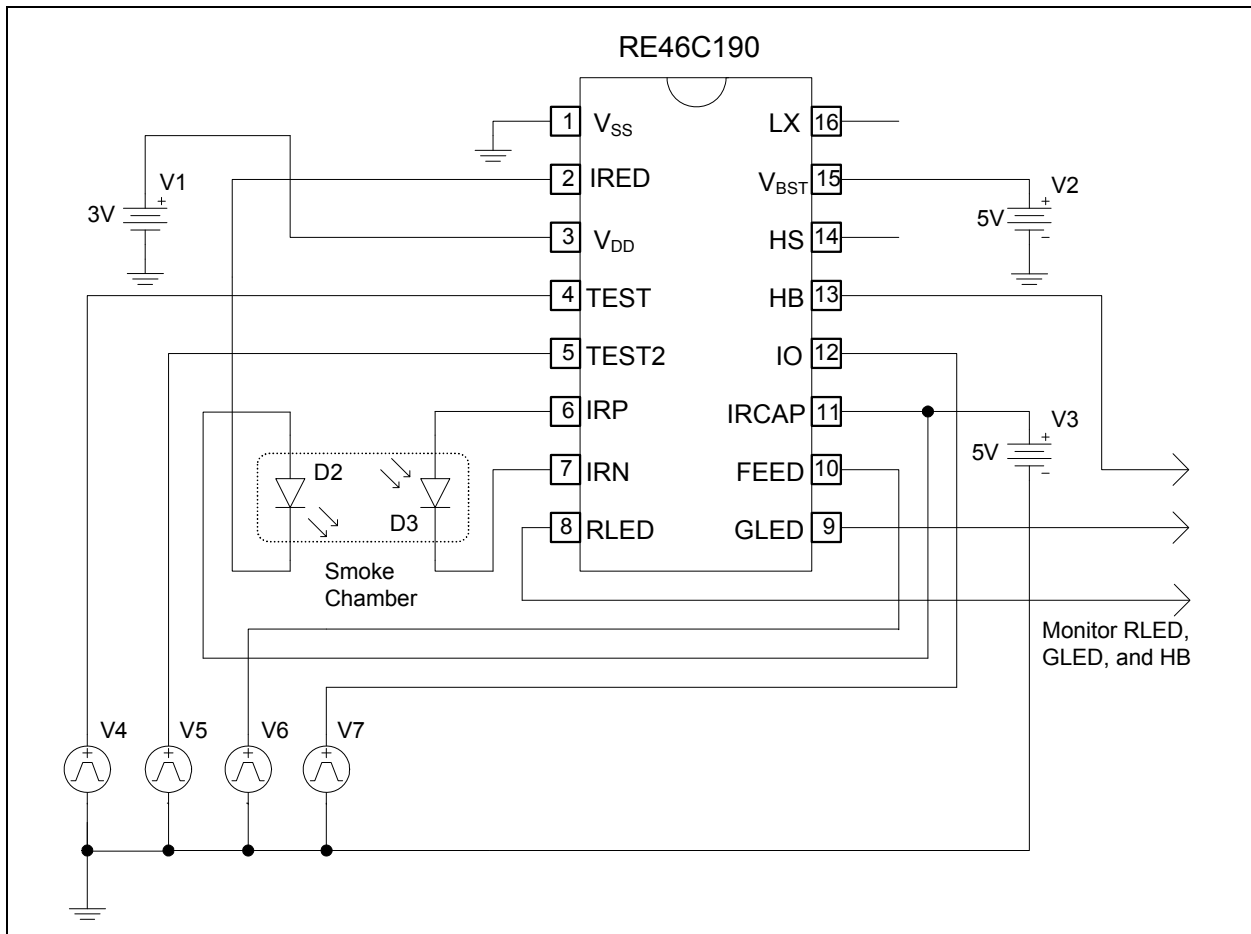
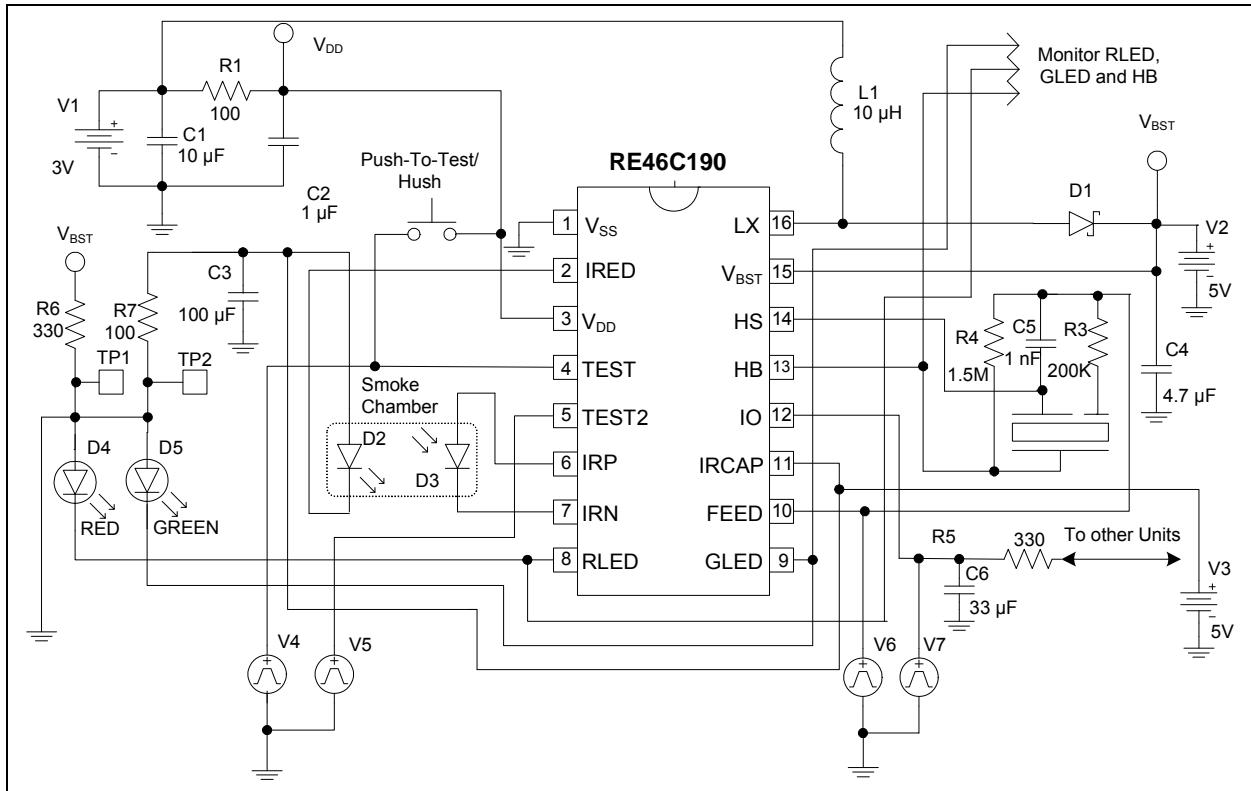

FIGURE 4-1: Nominal Application Circuit for Programming.
FIGURE 4-3: Circuit for Programming in the Typical Application.
1. Power up with bias conditions as shown in Figure 4-1. At power-up
As an alternative to Figure 4-1, Figure 4-3 can be used to program while in the application circuit. Note that in addition to the five programming supplies, connections to V_{SS} are needed at TP1 and TP2.
1. Power up with the bias conditions shown in Figure 4-1.
1. Set up the application as shown in Figure 4-1.